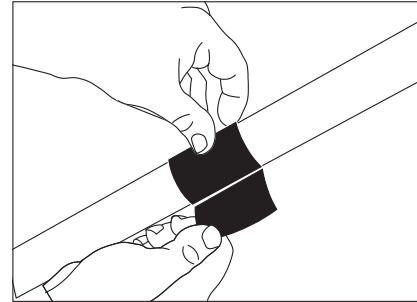

Figure 3: Install the mounting pad to the handlebar
4. Attach the neoprene mounting pad to the desired location on the handlebar. See Figure 3.